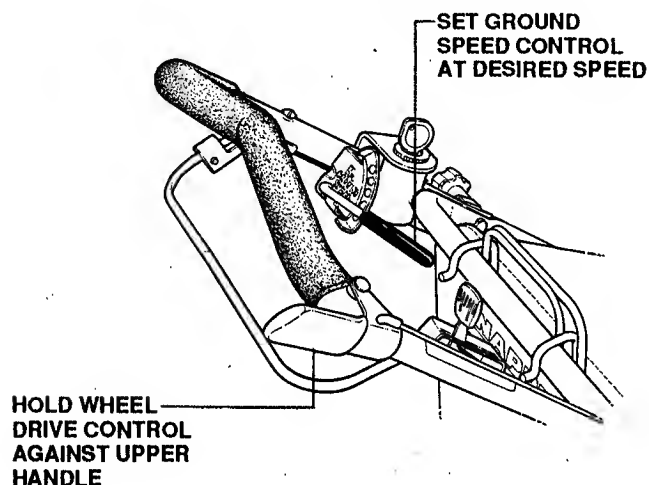

FIGURE 2.7
2. Set the ground speed control lever at the desired speed. See Figure 2.7.
3. Hold the wheel drive control against the upper handle. The mower will now begin to move forward. To stop forward motion, release the wheel drive control. The mower can then be pushed forward or pulled backward for trimming. Refer to Figure 2.7.